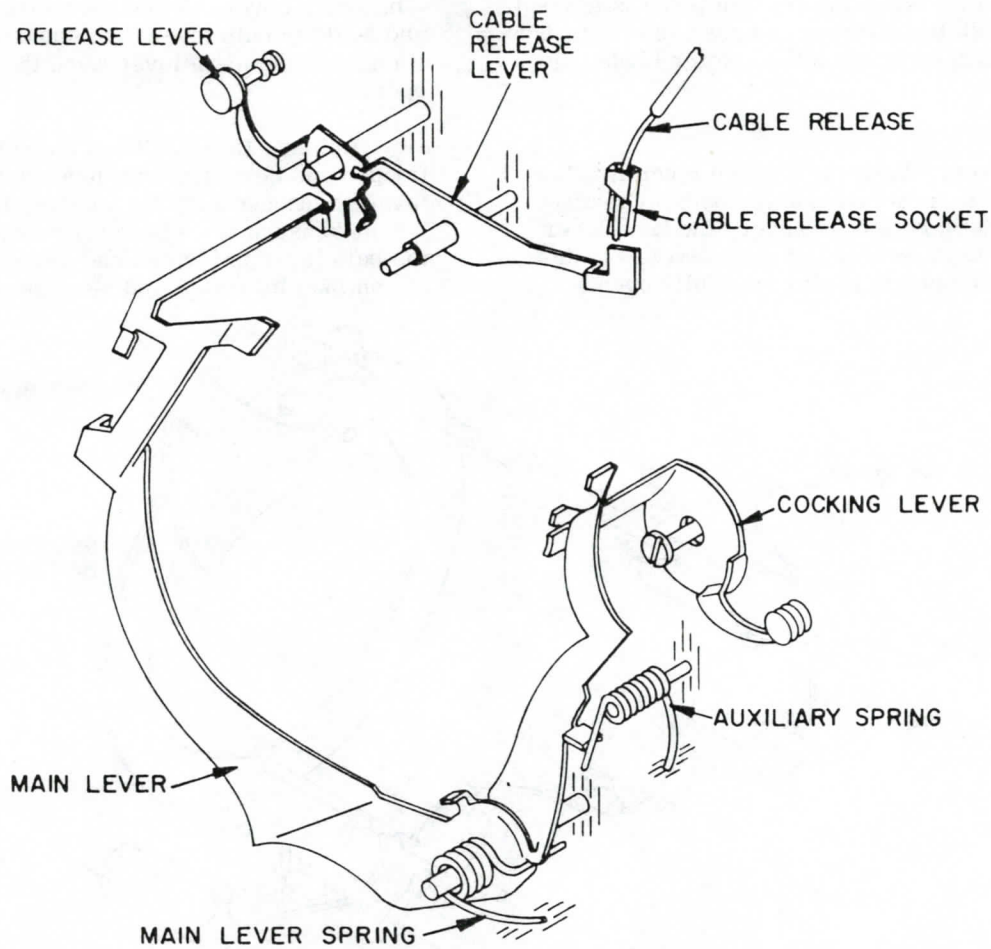

Figure 3. COCKING AND TRIPPING MECHANISM
3. Shutter Cocking (fig. 3)
4. Shutter Tripping (fig. 3 and 4)
### 9. Cable Release Mechanism (fig. 3)